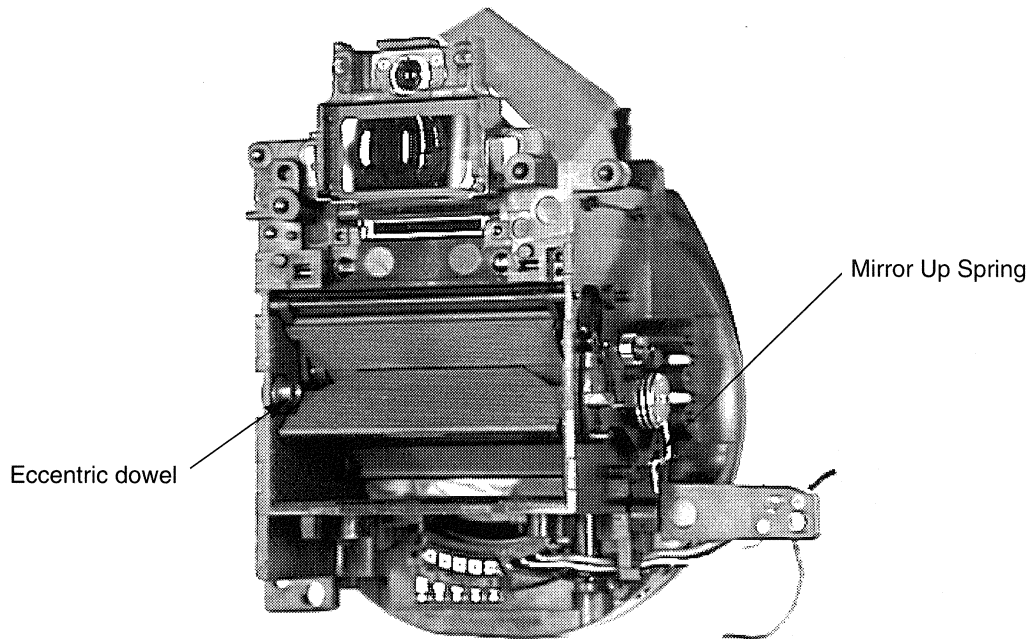

Figure 3-40 Sub Mirror Adjustment Locations
1. Remove the mirror up spring as shown (Fig. 3-40) to lower the mirror.